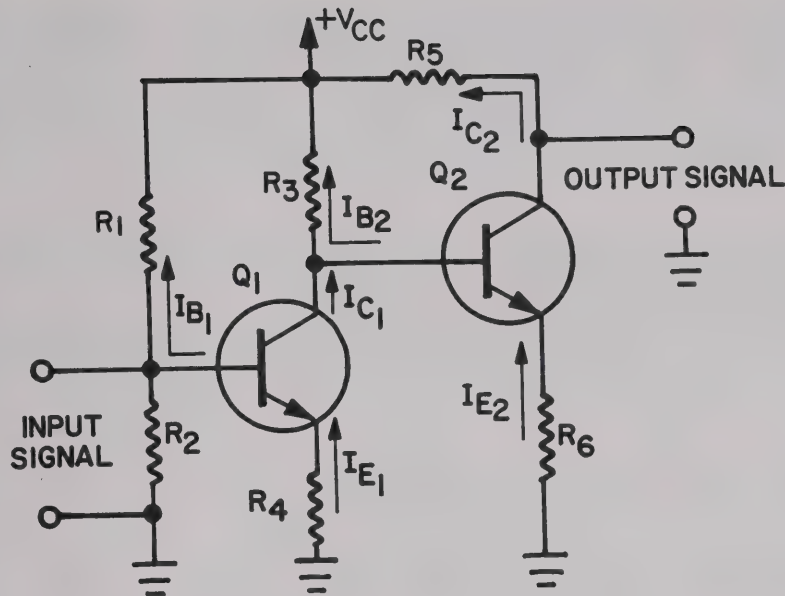
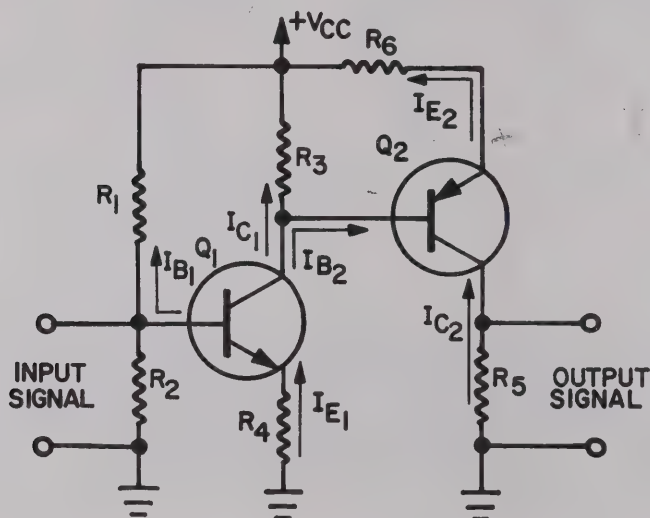

Figure 26
Figure 27
A direct-coupled amplifier using two NPN transistors is shown in Figure 26. The collector of Q_1 is coupled directly to the base of Q_2 . Resistor R_3 serves as both the collector load resistor for Q_1 and the base bias resistor for Q_2 . Changes of Q_1 collector current vary the voltage across R_3 , causing corresponding changes of Q_1 collector voltage and Q_2 base voltage.
PNP and NPN transistors require similar values of bias voltages, but the voltages must have opposite polarities. If Q_1 and Q_2 of Figure 26 are both replaced by PNP transistors, the polarity of the collector supply must be reversed so that the bases and the collectors are biased negative with respect to the emitters.
Figure 27 shows a direct-coupled amplifier which uses an NPN transistor in the first stage and a PNP transistor in the second stage. The amplifying and the coupling action is the same as in Figure 26. Because both types of transistors are used, the bias arrangement is different than that of Figure 26.
Direct-coupled amplifiers provide more uniform gain over the low-frequency range than transformer, resistance-capacitance or impedance-coupled amplifiers. Direct-coupled amplifiers can also be used with dc signals. However, the operating points of the transistors become more critical, because some of the resistors carry currents for more than one transistor. A small deviation from normal operation of one transistor can cause a large deviation in following stages. As a result, direct coupling often requires negative feedback and expensive precision components. Note that the emitter resistors in Figures 26 and 27 are unbypassed, providing negative current feedback for both Q_1 and Q_2 . This feedback aids significantly in obtaining good stability.
51. In the circuit of Figure 26, what is the relation between the voltage at the collector of Q_1 and the voltage drop across R_6 for proper bias on Q_2 ?
52. In the circuit of Figure 27, is the voltage drop across R_3 greater or less than the voltage drop across R_6 for proper bias on Q_2 ?